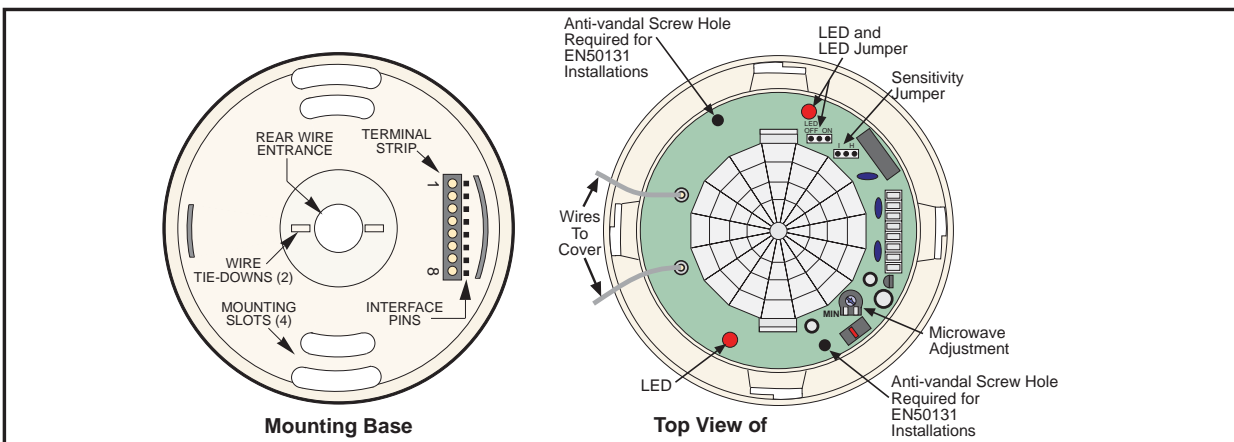

Figure 2.2: Mounting
3. Route wiring as necessary to the rear of the base and through the center hole. Refer to *Figure 2.2*.
After the cover has been installed and twisted into place, the entire assembly can be secured together using the supplied anti-vandal screws. The anti-vandal screws are required for EN50131 applications. Refer to the Top View of Enclosure in *Figure 2.2* for the location of the screw holes.